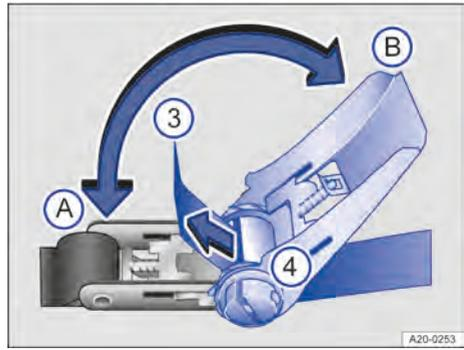
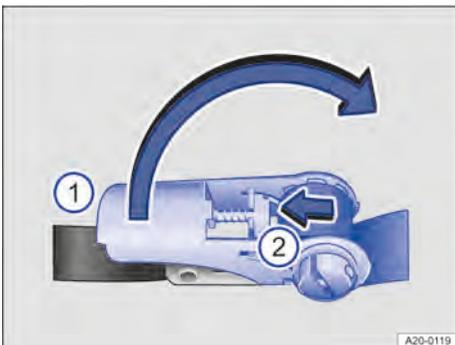

Fig. 142 Releasing and tightening the lever on the ratchet strap.
Fig. 141 Releasing and tightening the lever on the ratchet strap.
- Press the slider → Fig. 141 ② outwards in the direction of the arrow.
- Pivot the lever → Fig. 141 ① to position → Fig. 142 ②.
- Pull the belt → Fig. 142 ③ from the rear through the slot in the spool ④ and tighten the belt.
- Pivot the lever → Fig. 141 ① back and forth alternately between positions → Fig. 142 ① and ② until the belt has wound itself around the spool two to three times → ▲.
- Press the slider → Fig. 141 ② outwards and pivot the lever → Fig. 141 ① to position → Fig. 142 ①. The ratchet is now closed and locked in position.
4. Pull the ratchet strap → Fig. 142 ③ out of the ratchet.